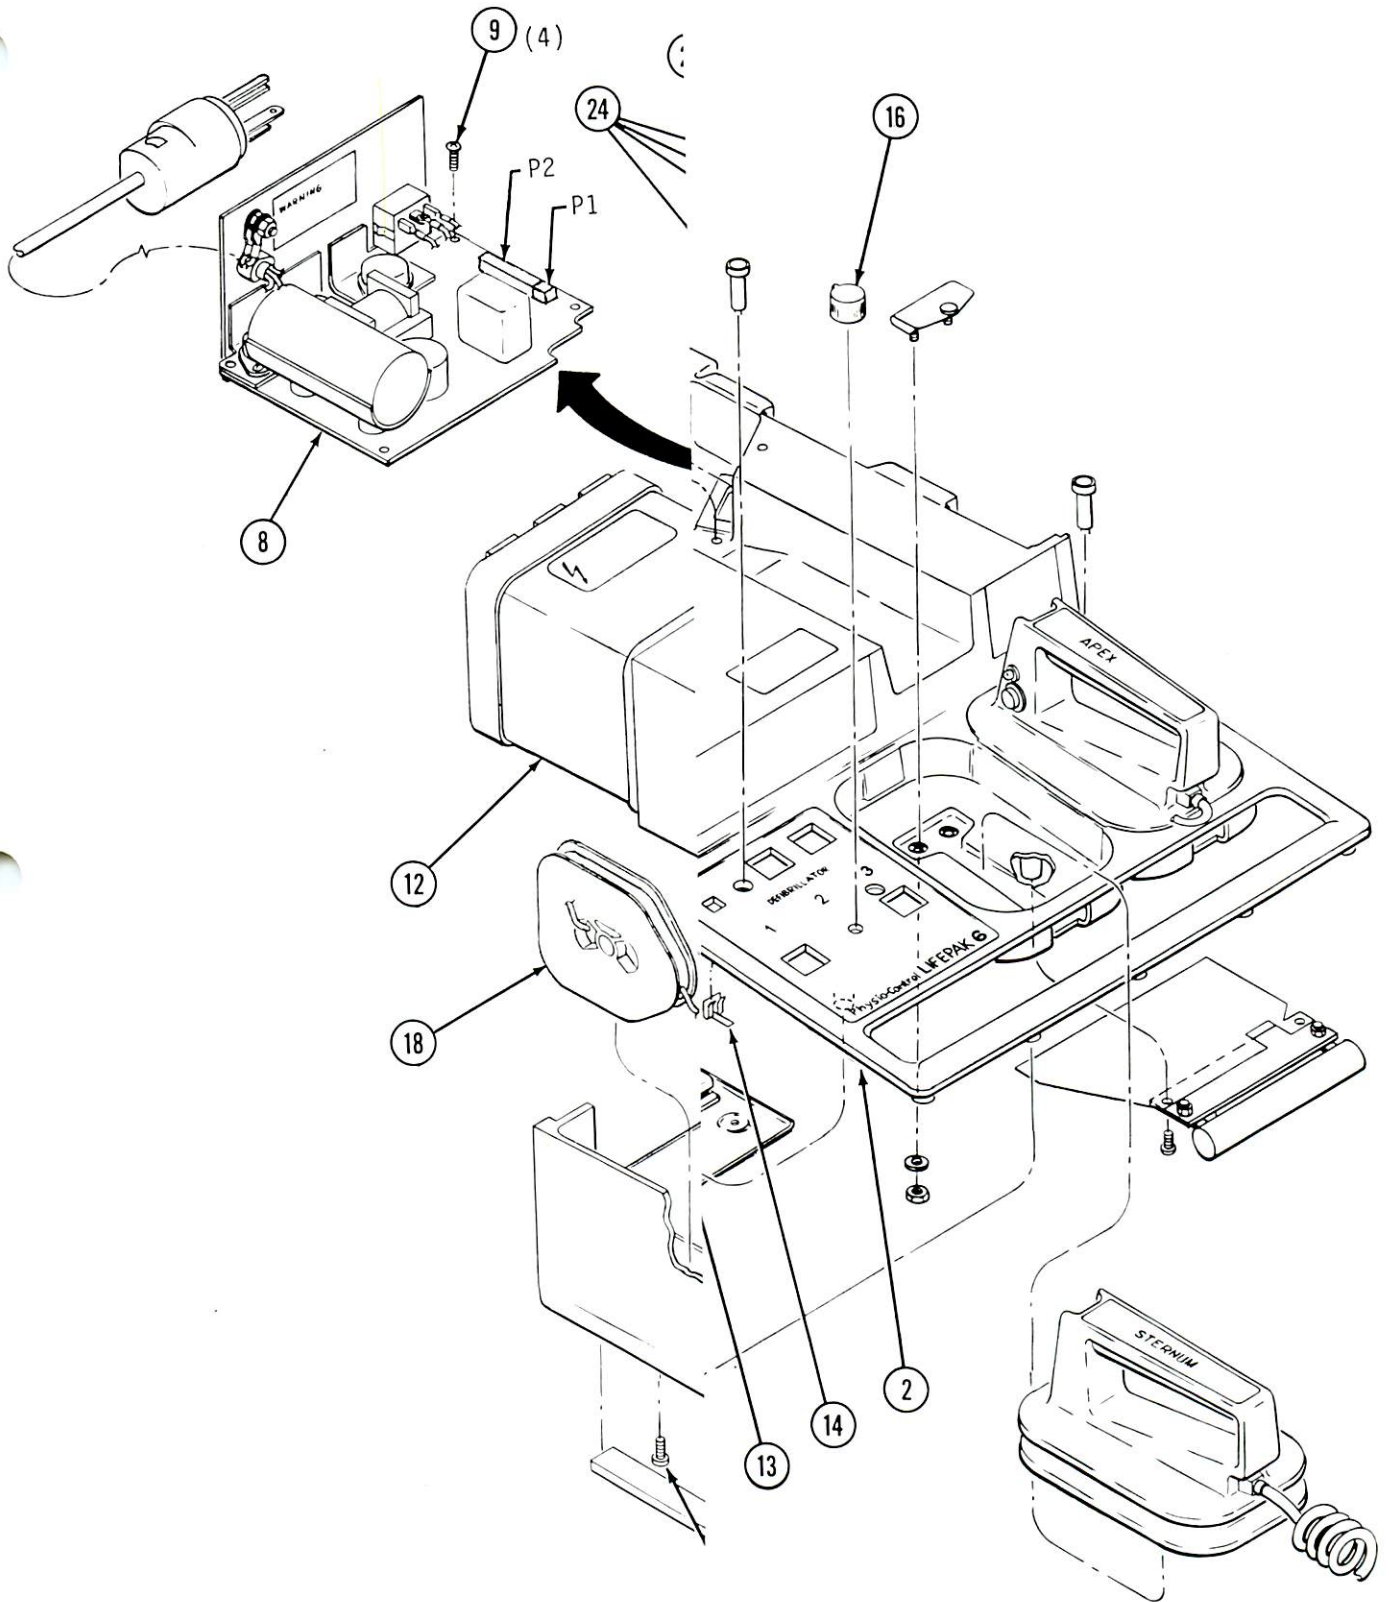

FIGURE 4-9. DC DEFIBRILLATOR MAJOR
- 4-57. Upper and Lower Case Separation. Refer to Figure 4-9 and proceed as follows: